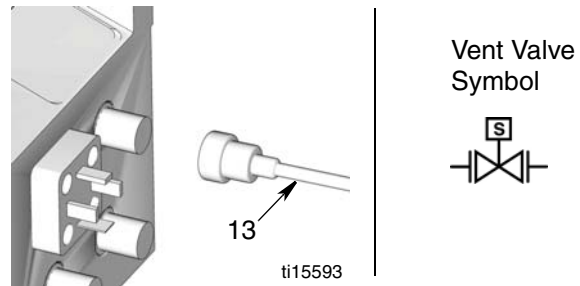

FIG. 7
- Connect end of cable (13) to the G3 (FIG. 7).
NOTE: To verify the correct port on the G3 is selected, locate the symbol shown in FIG. 7 on the G3 label.